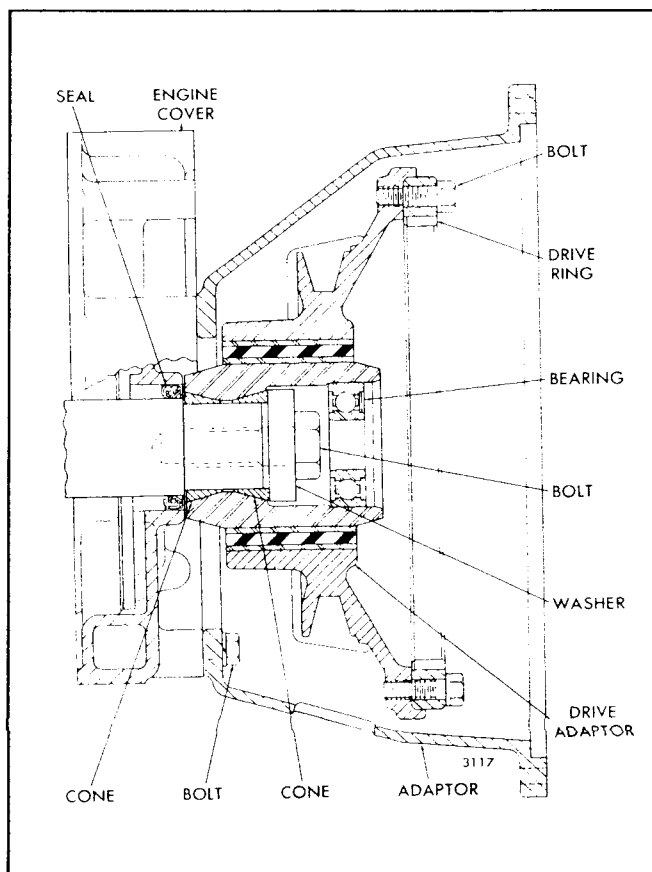

Fig. 1 - Front Power Take-Off Adaptor and Drive Mechanism
If removed, install the clutch pilot bearing (45) in the clutch drive adaptor (46) or the flywheel (Fig. 1 or 2) as follows:
3. Push the power take-off forward and guide the forward end of the drive shaft straight into the clutch pilot bearing (45), Fig. 1 or 2, and engage the teeth on the outer diameter of the clutch facings (26) with the teeth in the inner diameter of the driving ring (3).
6. Install the clutch control hand lever (7) on the clutch release shaft (22) and secure it in place with a bolt and lock washer.
The front power take-off adaptor and drive mechanism (Fig. 1) consists of an adaptor which is bolted to the lower engine front cover, a clutch drive adaptor mounted on the front end of the crankshaft and a clutch driving ring.